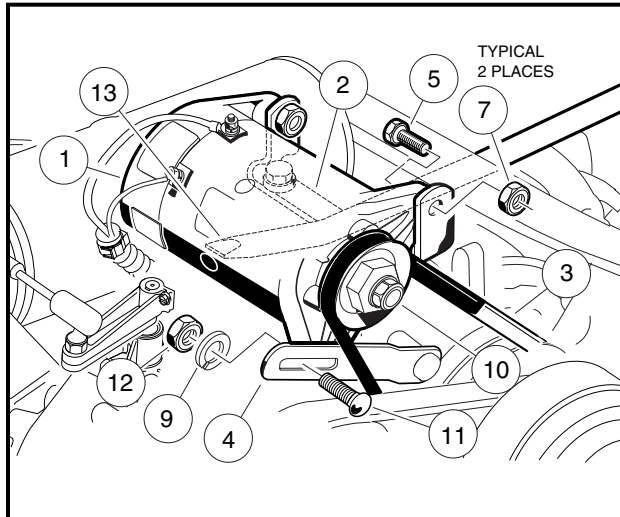
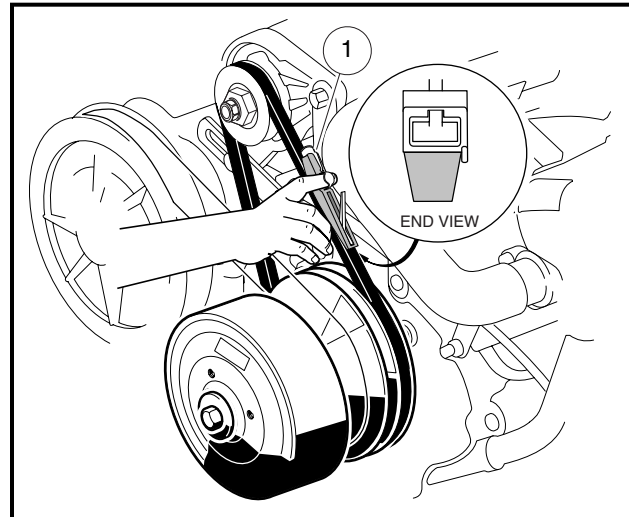

Figure 12-14 Starter/Generator Installation
Figure 12-15 Belt Tension Gauge
2. Install two 3/8-inch hex-head pivot bolts (5) into the mounting bracket with the heads of the bolts facing towards the driver side of the vehicle. Position the starter/generator in the mounting bracket so that the bolts will go through the starter/generator before going through the bracket. Install a lock nut (7) onto each bolt and tighten to finger-tight (**Figure 12-14, Page 12-10**).
3. Install the adjustment bolt (11) through the adjusting bracket (4) and then through the starter/generator. Install a lock washer (9) and 5/16-inch nut (12) onto the end of the adjustment bolt (11) and tighten to finger-tight (**Figure 12-14, Page 12-10**).
4. Install the belt (3), then tighten the mounting bolts. **See Belt Tension Adjustment on page 12-10.**
3. Make sure the two pivot bolts (5) on the mounting bracket, carriage bolt (11), and hex nut (12) are finger-tight (**Figure 12-14, Page 12-10**).
4. Push the starter/generator down to its lowest point of adjustment travel. With the starter/generator belt in place around the drive clutch pulley, install the starter/generator belt (3).
5. Place a pry bar (13) between the top of the starter/generator mounting bracket (2) and the underside of the starter/generator, passing the pry bar under the exhaust header.
6. Hold the pry bar and measure the belt tension using a Krikit® gauge (1) (available at NAPA® Auto Parts stores), or equivalent. Proper tension for a new starter/generator belt should be 75 ft-lb (101.7 N·m) or 45 ft-lb (61 N·m) for an existing belt (**Figure 12-15, Page 12-10**).
7. While maintaining the tension, tighten the adjustment nut (12) to 12 ft-lb (16.3 N·m). Tighten the two pivot bolts (5) and hex nuts (7) to 23 ft-lb (31.2 N·m) (**Figure 12-14, Page 12-10**). See following **CAUTION**.